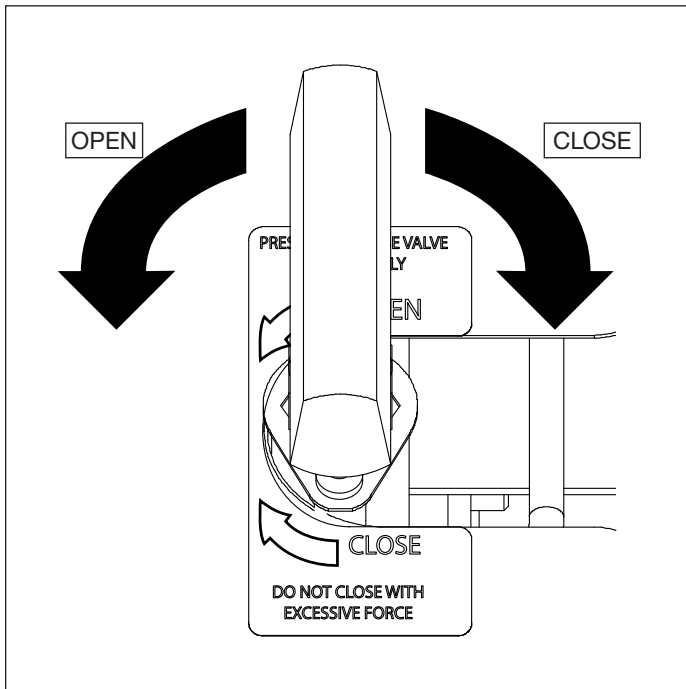

Figure 4, Manual Pressure Release Valve
1. Rotate the manual pressure release valve handle counterclockwise to the open position to release pressure. Refer to Figure 4.
2. Verify that the pressure gauge indicates zero (0) psi/bar.